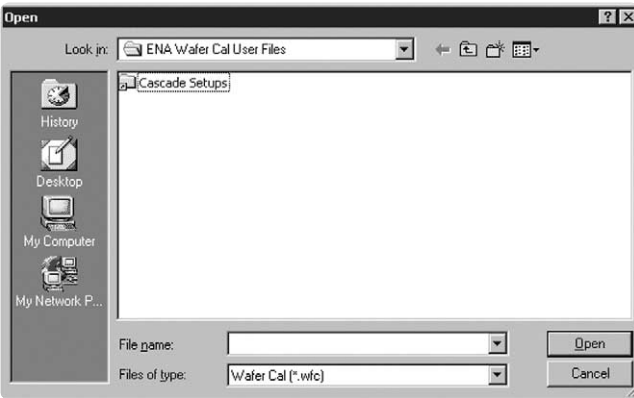

Figure 7. Loading a calibration setup file
1. Click the **[Open]** button to load a calibration setup file (Figure 7).